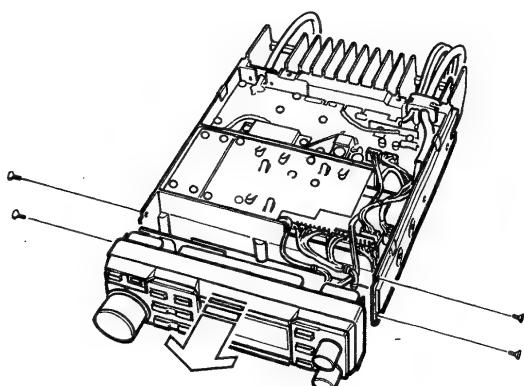

Fig. 2
- 2) Unscrew the four screws on the left and right sides of the front panel. Remove the front panel. Be sure not to cut or damage any wires during removal. See Fig. 2.